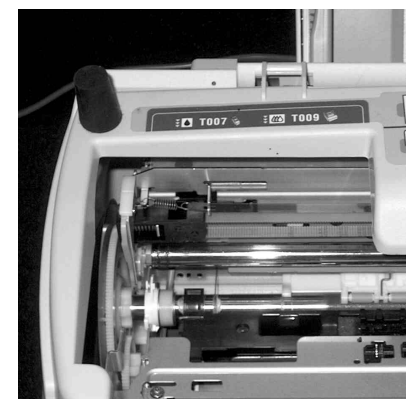
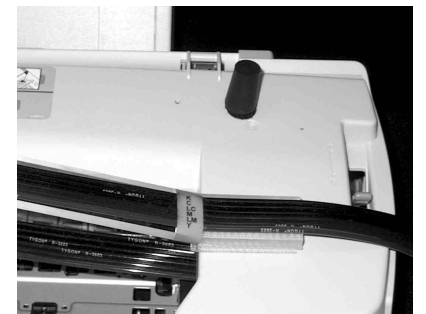

Fig. 11
Fig. 12
11. Mark the position for the rubber bumpers used to prop open the lid. The bumpers should be far enough towards the back of the printer, to keep the lid from putting pressure on the Acrylic Support arm. See Fig. 11 and Fig. 12.